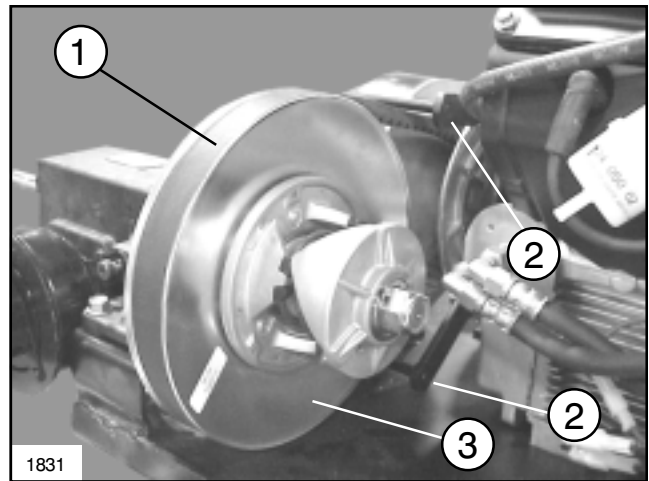

FIG. 22
- B. Belt Guide - Guide should be a distance of 1/8" from Driven Pulley edge. (See FIG. 22)
- B. Belt Guides loose or mislocated - adjust per FIG. 22.